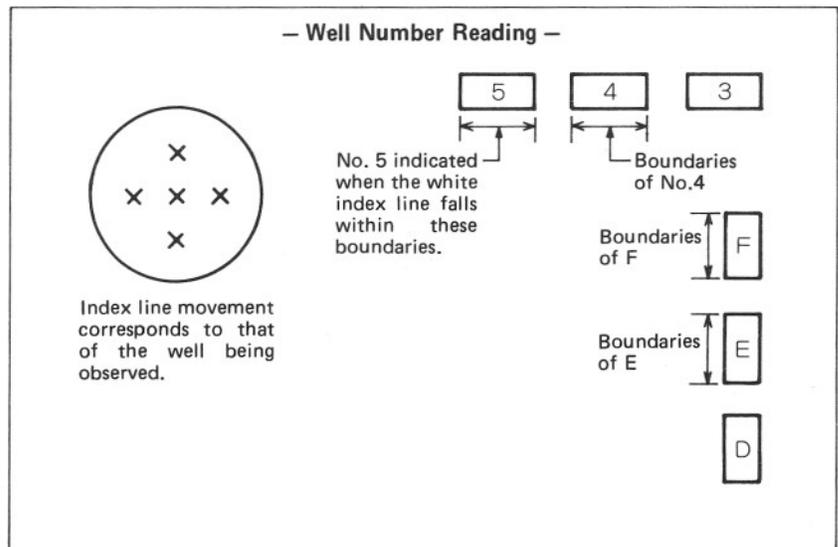

Fig. 51
**Note:** The blocks surrounding the alphanumeric figures describe the perimeters of the well. (Fig. 51)